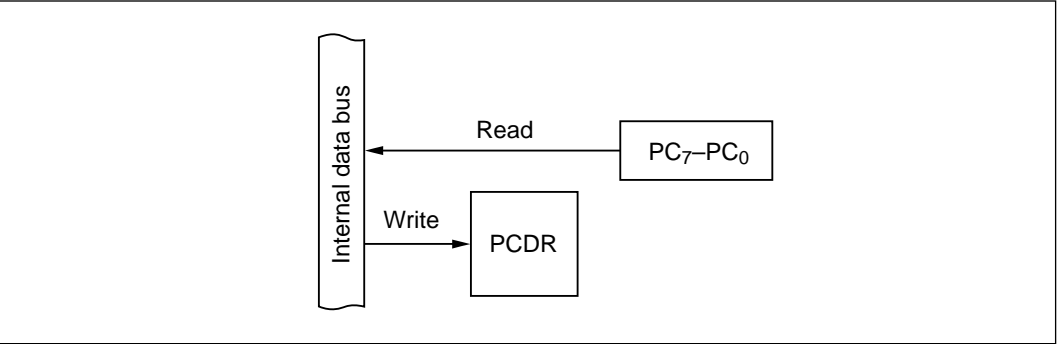

Figure 10-87 Input Port (Modes 2 and 4)
(1) **Input Port (All Pins: Modes 2 and 4):** Figure 10-87 shows a block diagram illustrating the general-purpose input function. Table 10-65 indicates register read/write data. Values written in the port C data register (PCDR) have no effect on general-purpose input lines. When read, PCDR returns the value at the pin.